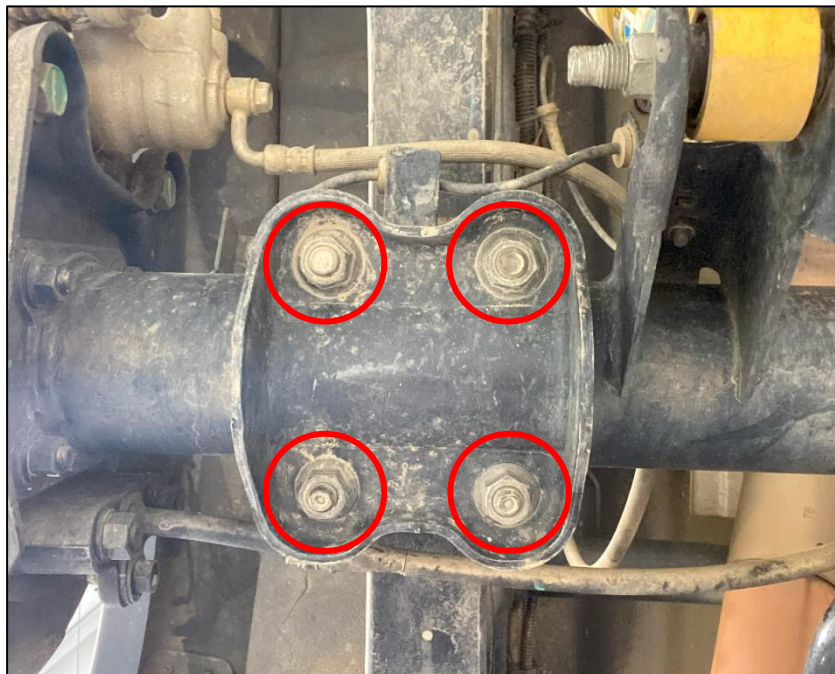

Figure 3
8. Starting on either side of the vehicle, remove the (4) four U-Bolt nuts. Remove the Rear Spring Pad and U-Bolts from the vehicle. *Figure 3.*